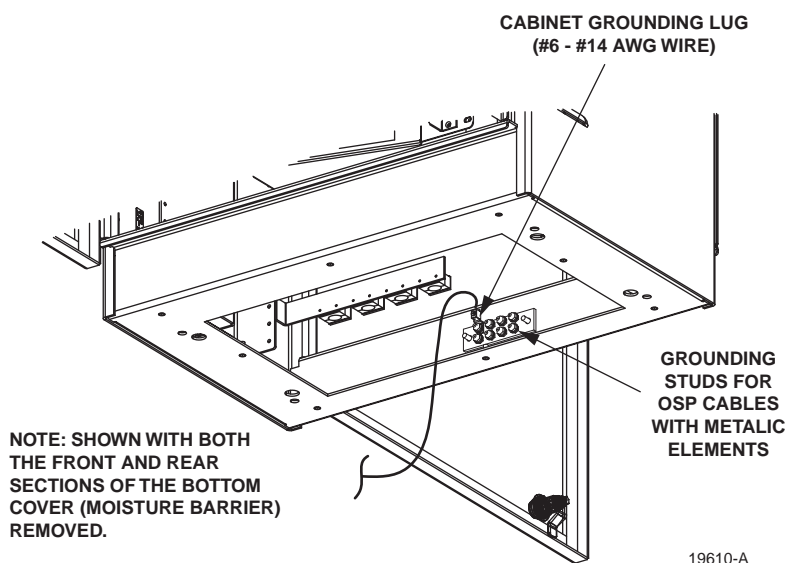

Figure 13. Grounding Wire Connection To Cabinet
2. Attach the grounding wire to the grounding lug as shown in Figure 13. The grounding lug can be used for #6 – #14 AWG wire. Tighten the grounding lug set screw securely.
7. If a grounding kit was installed on the cable, attach the cable grounding lead to one of the grounding studs located within the cabinet (see Figure 13).